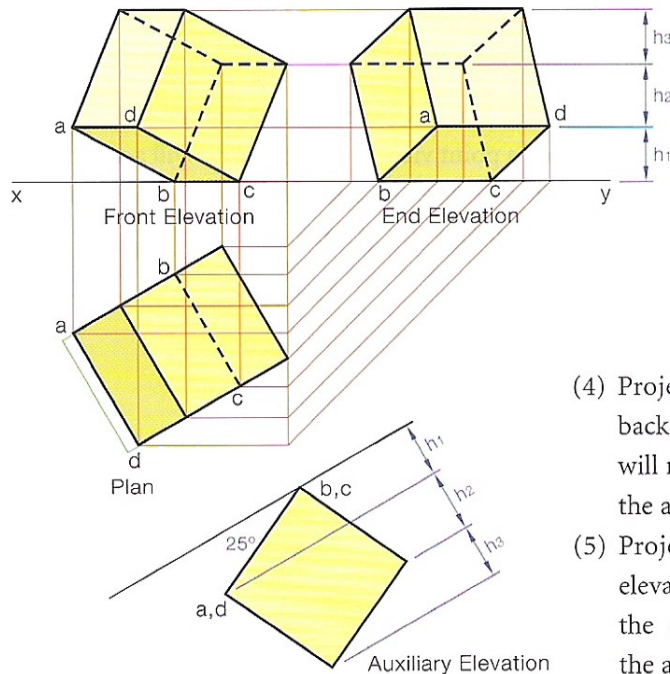

Fig. 5.3
- (4) Project the rotated cube back to the plan. All points will move perpendicular to the axis in plan.
- (5) Project both sets of elevations. The heights for the corners are found in the auxiliary elevation, Fig. 5.3.